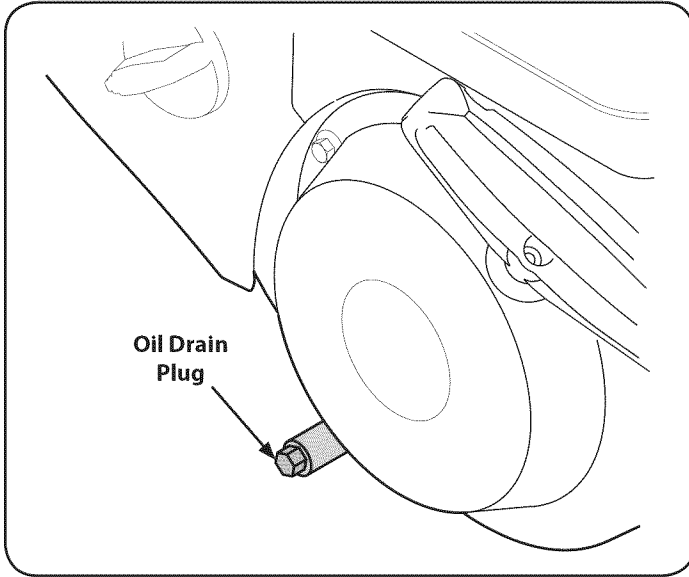

Figure 18
3. Remove oil drain plug. See Figure 18.